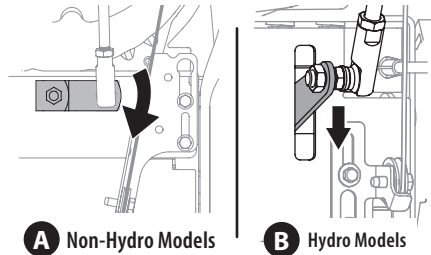

Figure 33
- Make sure the shift lever on the back of the transmission is rotated downward to the full extent of its rotation see Figure 33, Detail "A" for models without hydro transmission or Detail "B" for models with hydro transmission.